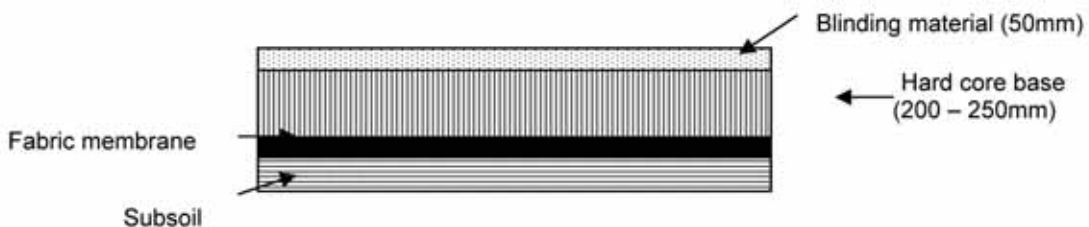

Figure 2: *Membrane roadway / track*
- Can be laid directly onto the topsoil, but removing topsoil does work better although it costs more. Where the roadway is being laid onto weak topsoil, a geotextile membrane should be laid under the road materials (See Figure 2).